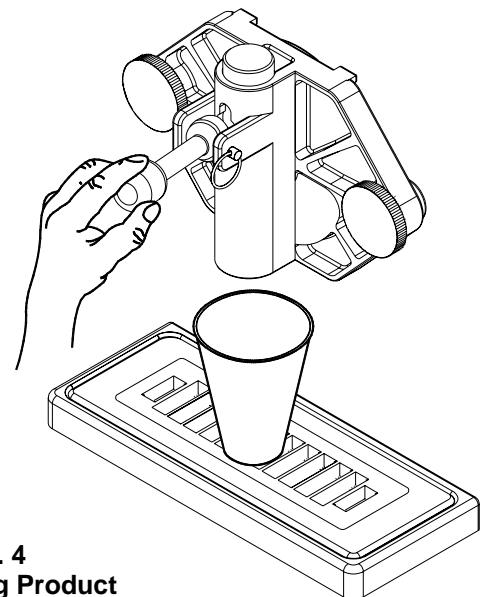

Fig. 4
| Fig. 4 Dispensing Product | 3 |
2. Set the control switch to the “**CLEANOUT**” position and dispense all product from the freezing cylinder by pulling downward on the spigot handle (Fig. 4) to empty the machine.